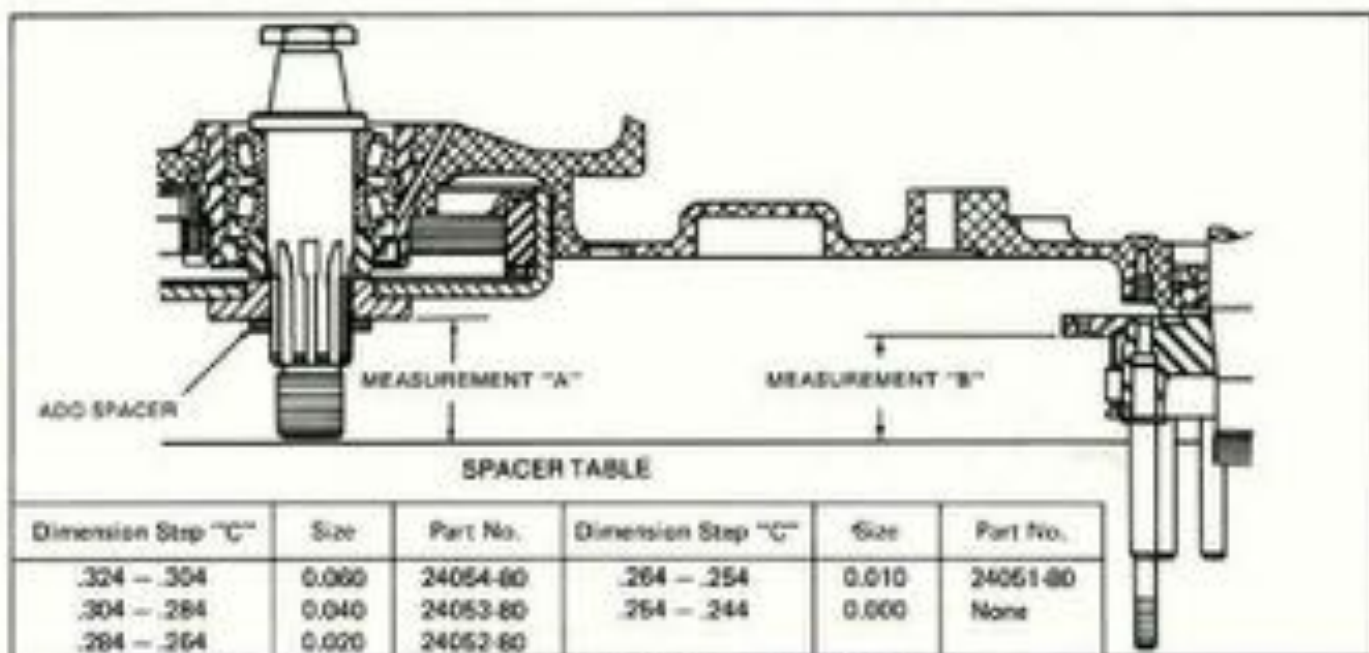

Figure 6-15. Aligning the Primary Belt
1. Remove the clutch shell assembly and compensating sprocket (See Figure 6-15) to determine spacer thickness as follows:
EXAMPLE (refer to Figure 6-15)
Belt tension is set at the factory and should be checked after the first 500 miles and every 10,000 miles thereafter (See Figure 6-15). When 10 lbs of force is applied at the midpoint of the belt's bottom strand, deflection should equal 5/8 to 3/4 in., with rear wheel on the ground and one rider sitting on the motorcycle.